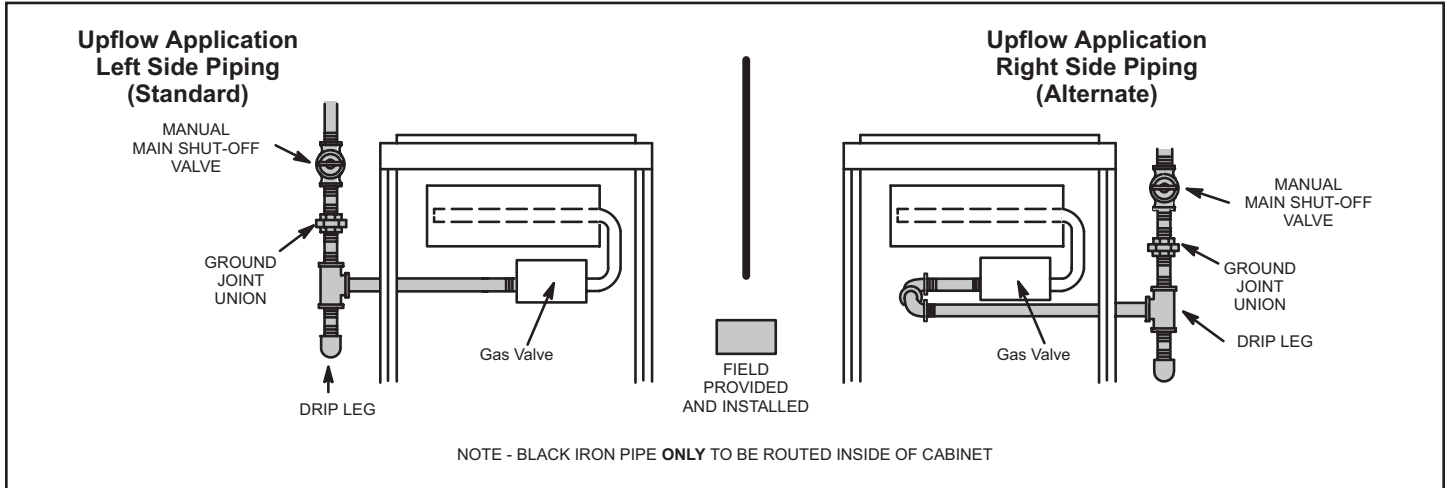
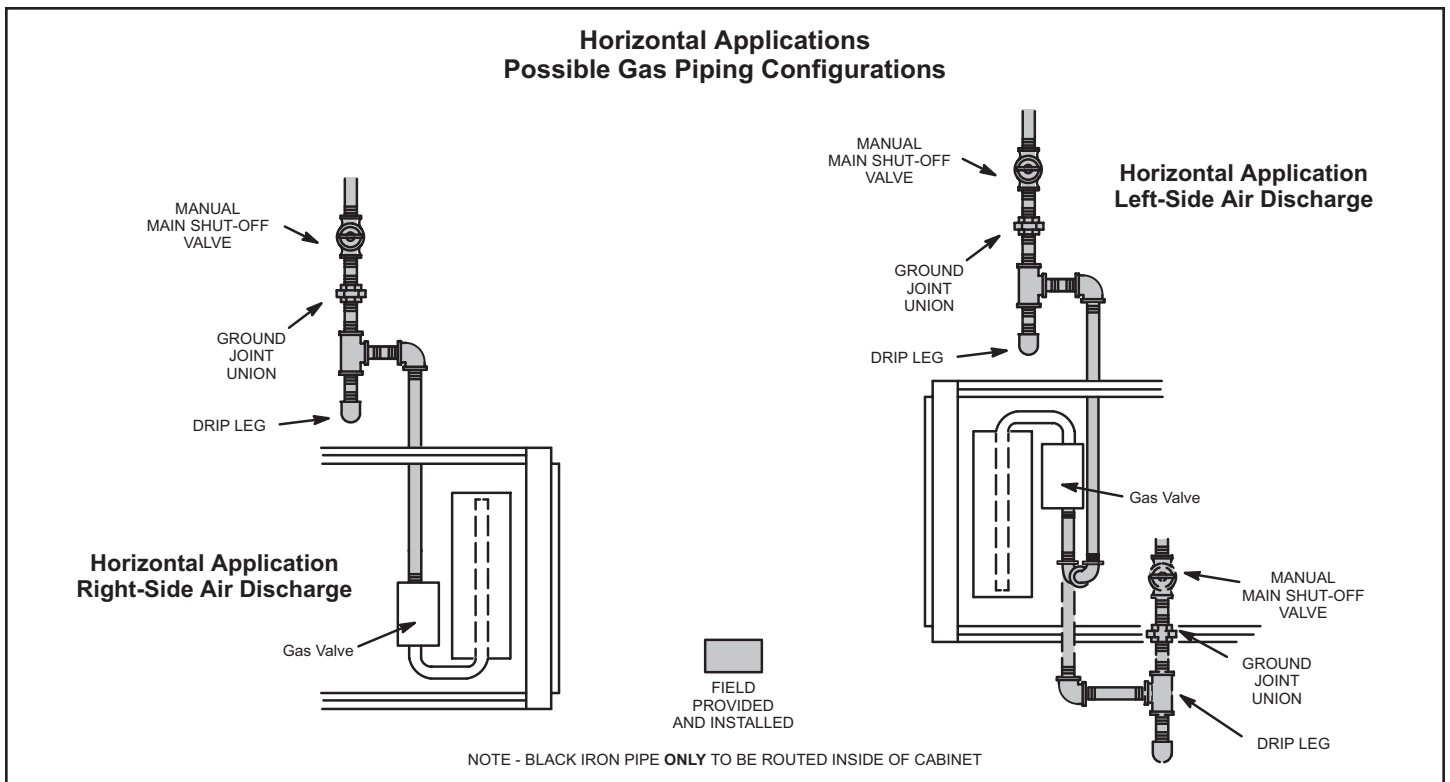

Figure 61. Gas Piping Upflow Applications
Figure 62. Gas Piping Horizontal Applications
1. Gas piping may be routed into the unit through either the left or right hand side. Supply piping enters into the gas valve from the side of the valve as shown in Figure 61 and Figure 62.
3. Gas piping must not run in or through air ducts, clothes chutes, chimneys or gas vents, dumb waiters or elevator shafts. Center gas line through piping hole. Gas line should not touch side of unit. See Figure 61 and Figure 62.